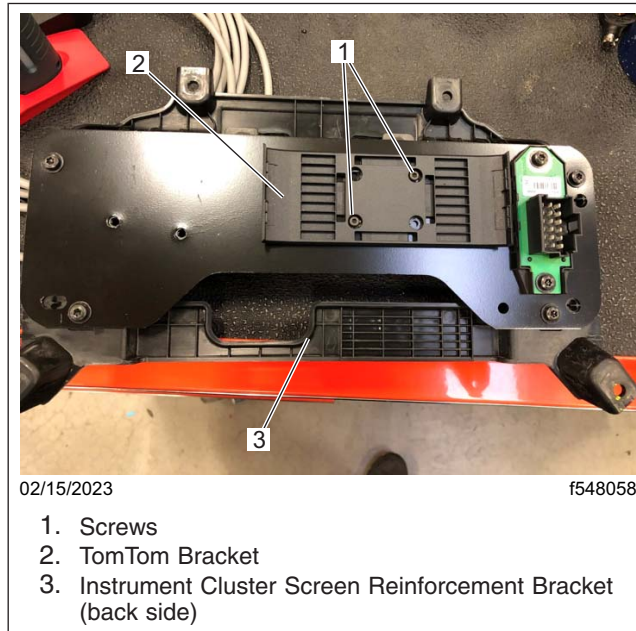

Fig. 10, TomTom Bracket Installation
- 8.1 Align the TomTom bracket with the pre-drilled holes on the instrument cluster screen reinforcement bracket metal plate, then secure the bracket to the plate using the two screws. See Fig. 10.